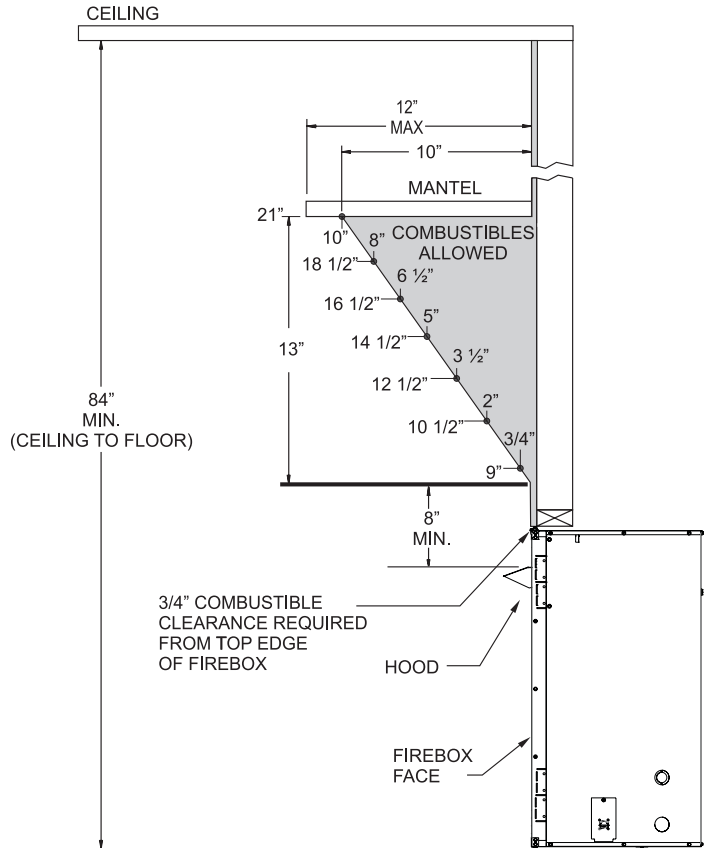

Figure 4 - Clearances to Combustibles
**Ceiling Clearances:** The ceiling height should not be less than 84 inches from the bottom of the firebox. See Figure 4.